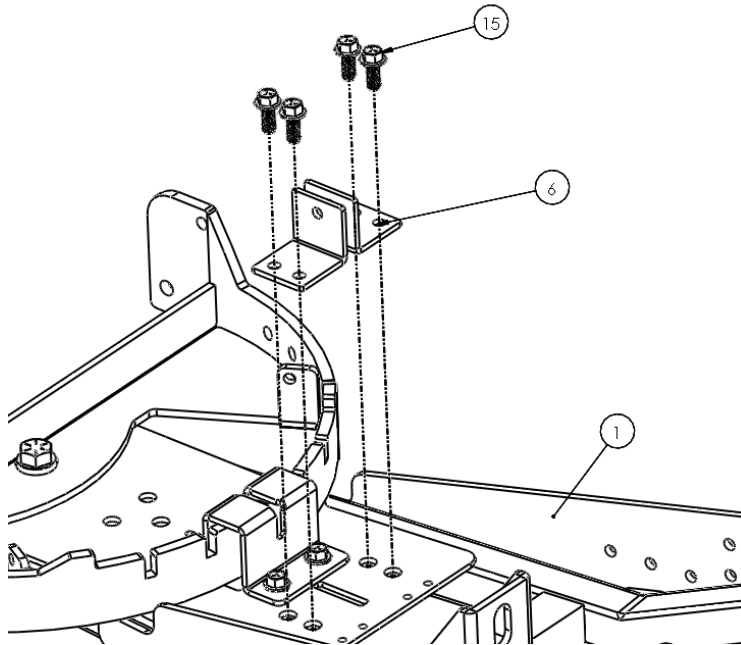

Figure 3
- 3) Attach the Pivot Lever Risers to the Lift Arm using four 3/8" x 1.00" Flange Bolts as shown in **Figure 3**.